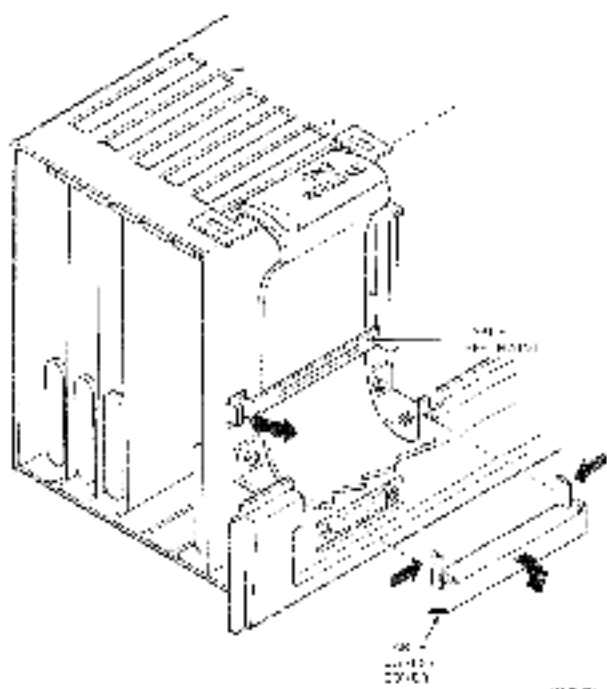

Figure 2-78 Removing Internal SLU Option Cable
2. Remove the two thumbscrews from the cable hold-down bracket (Figure 2-78) above the SLU option module slot (slot 5).
3. Remove and save the cable restraint by pressing in on its tabs. Unclip the cable restraint and move it away from the card cage (Figure 2-78).